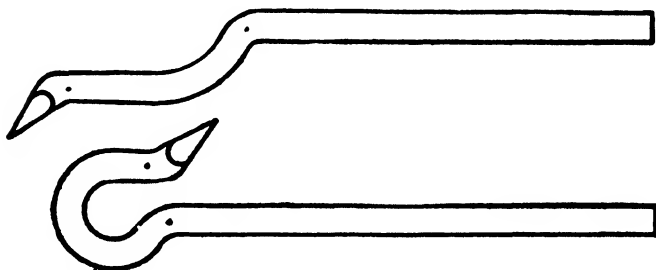

FIG. 49
23. Mark with a center punch the length of the stock required to form the eye. Heat at the mark and extend the stock over the end of the horn of the anvil with the front of the taper down. Fig. 49.